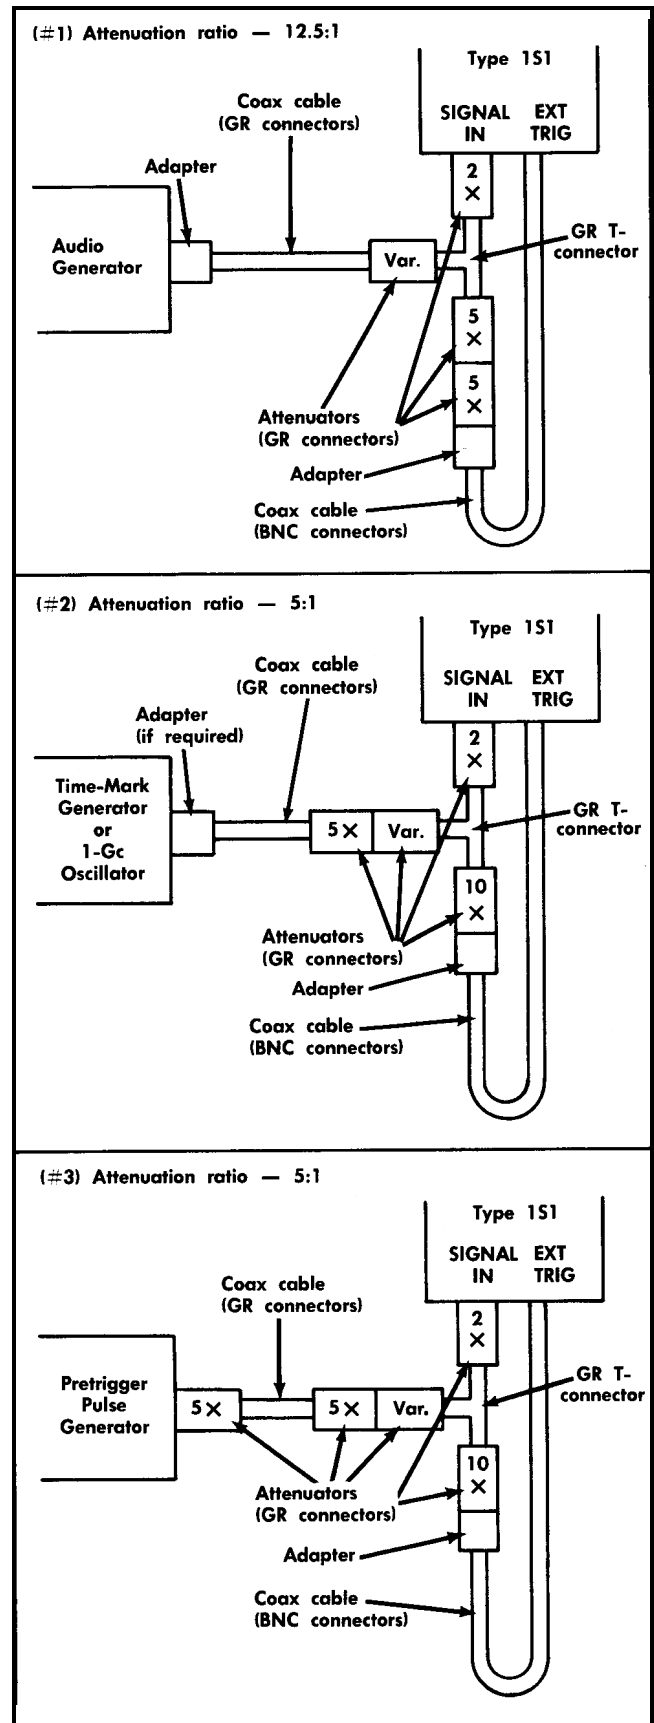

Fig. 5-63. Suggested connections for checking triggering jitter.
a. Connect the indicated input triggering signal to the SIGNAL IN connector and to the EXT TRIG connector through a T-connector, attenuators and coax cables as necessary (see Fig. 5-63).